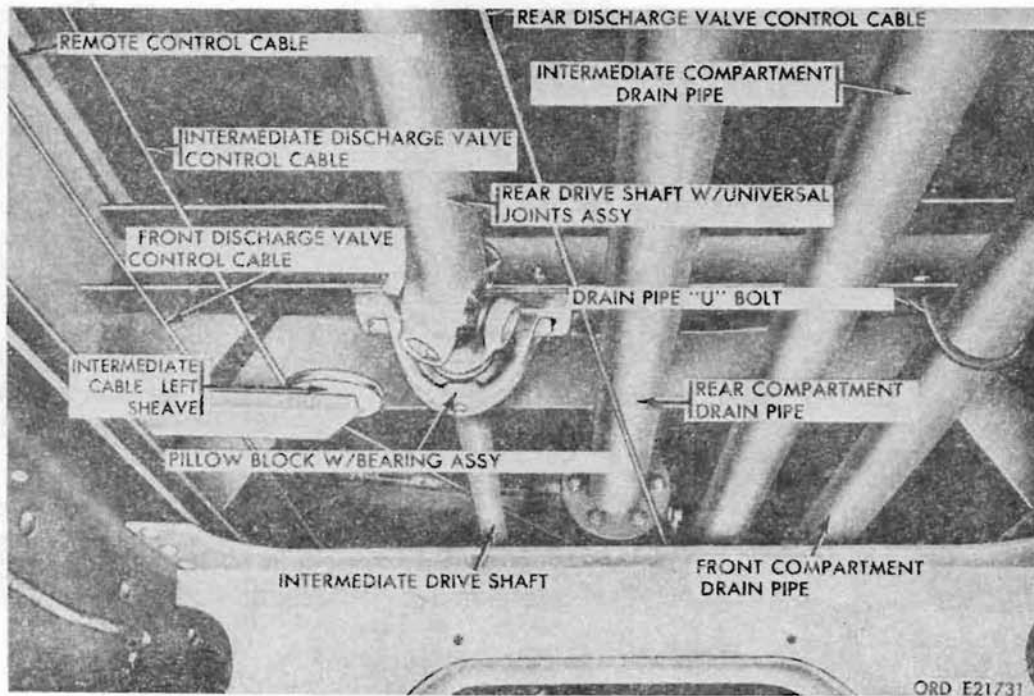
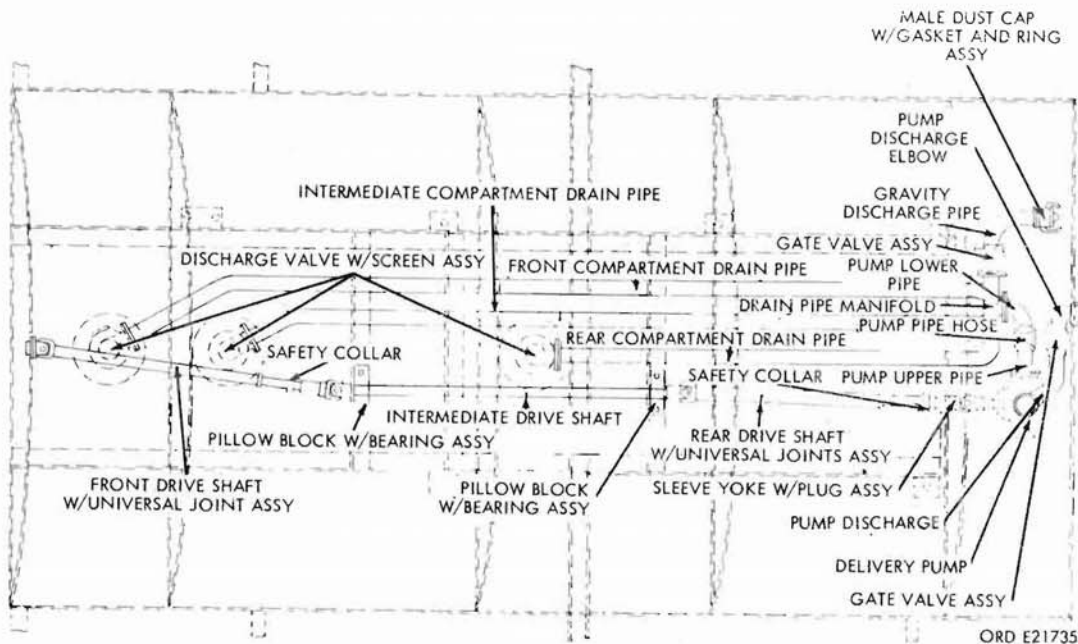

Figure 296. Fuel tank body discharge valve control cables, compartment drainpipes, pump drive shafts, and pillow block with bearing assembly
Figure 300. Fuel tank body drainpipes, pump drive shafts and pillow block assemblies
- (1) Loosen hex-socket set bolt in safety collar on front drive shaft assembly (fig. 300). Slide collar forward as far as possible and tighten set bolt. Loosen set bolt securing drive shaft assembly on intermediate shaft. Pull rear end of shaft assembly from intermediate shaft and remove shaft assembly.
- (2) Loosen set bolt securing rear drive-shaft assembly on intermediate drive shaft (fig. 300). Pull rear drive-shaft assembly backward from intermediate
- (3) Remove two hexagon self-locking nuts and hex-head bolts attaching each pillow block, with bearing, assembly (figs. 296 and 300) to body crossmembers and remove intermediate drive shaft and two pillow block assemblies as a unit. Remove two pillow block mounting spacers from pillow block assemblies.
- (1) Position intermediate drive shaft (fig. 300), two pillow block with bearing assemblies (figs. 296 and 300), and two pillow block mounting spacers to body crossmembers. Secure each pillow block assembly with two hex-head bolts and hexagon self-locking nuts.
- (2) Remove sleeve yoke with plug assembly from rear drive-shaft assembly
(fig. 300). Insert splined (rear) end of rear drive-shaft assembly in hole in pump compartment bulkhead. Align keyway in front end of drive-shaft assembly with key in intermediate shaft and slide rear drive-shaft assembly onto intermediate drive shaft. Secure shafts together by tightening set bolt in rear drive-shaft assembly. Working in pump compartment, install sleeve yoke assembly on splined end of rear drive-shaft assembly.
- (3) Aline keyway in rear end of front drive-shaft assembly with key in intermediate shaft and slide front drive-shaft assembly onto intermediate drive shaft (fig. 300). Secure shafts together by tightening set bolt in front of drive-shaft assembly. Swing front end of front drive-shaft assembly against body and secure in position with wire.
- (4) Lubricate pump drive-shaft assemblies and pillow block assemblies in accordance with lubrication order LO 9-2320-209-12.